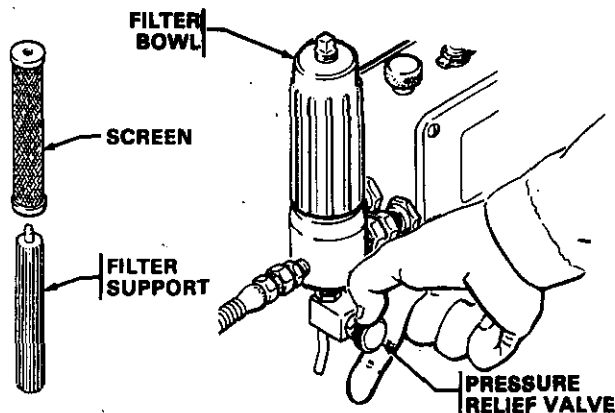

Fig 8
2. Remove the filter bowl and screen; see manual 307-273 supplied. Clean the screen separately and install the bowl without the screen to flush it. See Fig 8.